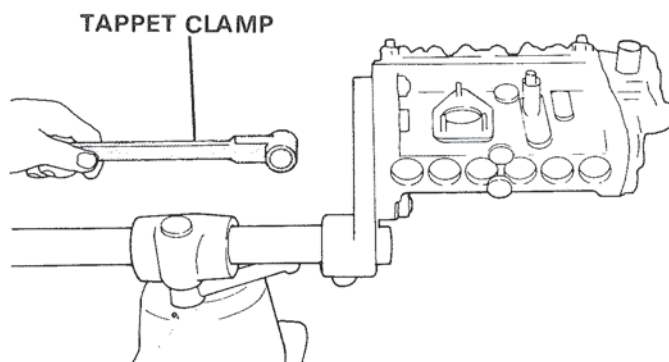

Figure 28. Removing Tappets.
B. Hold tappet inside camshaft chamber with roller clamp, Special Tool No. 95905-05030, and remove tappets through camshaft bearing hole, using tappet clamp, Special Tool No. 95905-02030. Figure 28.